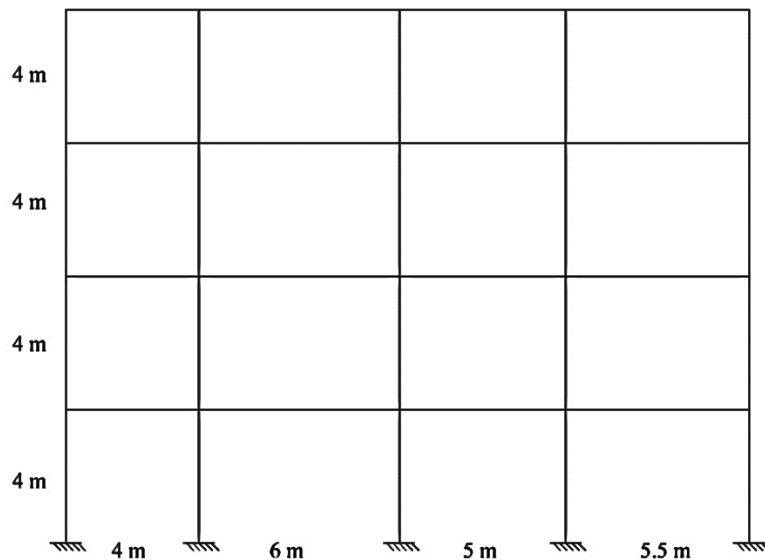

Fig. 1
2. Analyse the building frame shown in Fig. 1 for lateral loads of magnitude 50kN, 70kN, 85kN and 60kN for 1st floor, 2nd floor, 3rd floor and roof level respectively, the loads acting at the extreme left end of the frame towards the right using